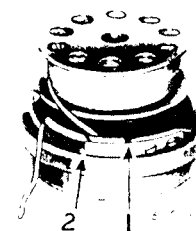
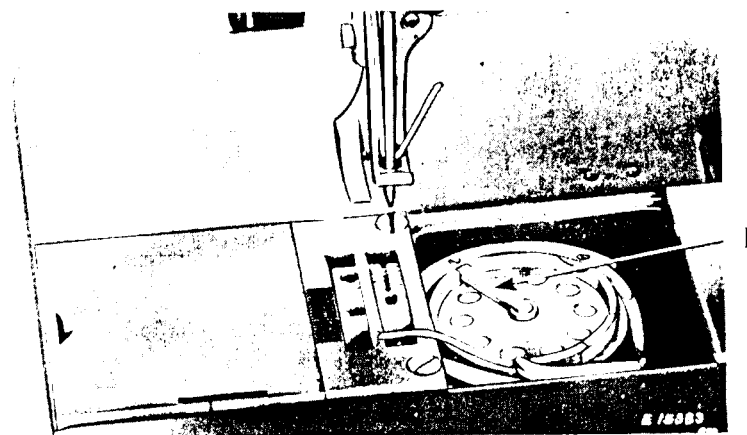

Fig. 10. Direction of Thread on Bobbin
Fig. 11. Bobbin Case Threaded
Apply a few drops of oil four times daily to the felt pad in the side wall of the bobbin case as illustrated in Fig 10.
Hold the bobbin between the thumb and forefinger of the right hand, the thread drawing on the bottom from left to right as shown in Fig. 10, and
place it on the center stud of the bobbin case, then push down the latch (L, Fig. 11). Draw the thread into the slot (1, Fig. 10), under the tension spring and into slot (2) as shown in Figs. 10 and 11, leaving a loose end of thread about two inches long above the slide. When closing the slide plate, leave just enough space for the thread to pass through.